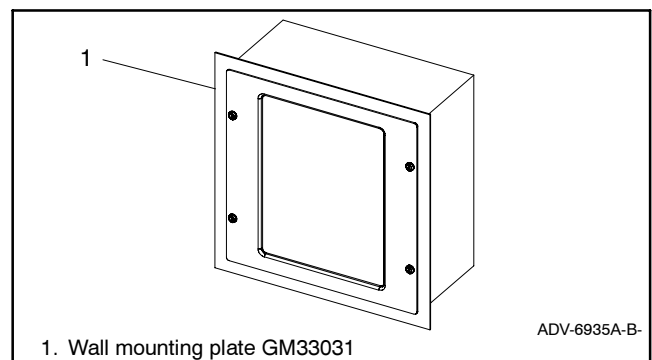

Figure 32 RSA Wall Mounting Plate
- 5.2.1 Place wall mounting plate GM33031 *behind* the RSA front panel assembly flange if not already done. See Figure 32.